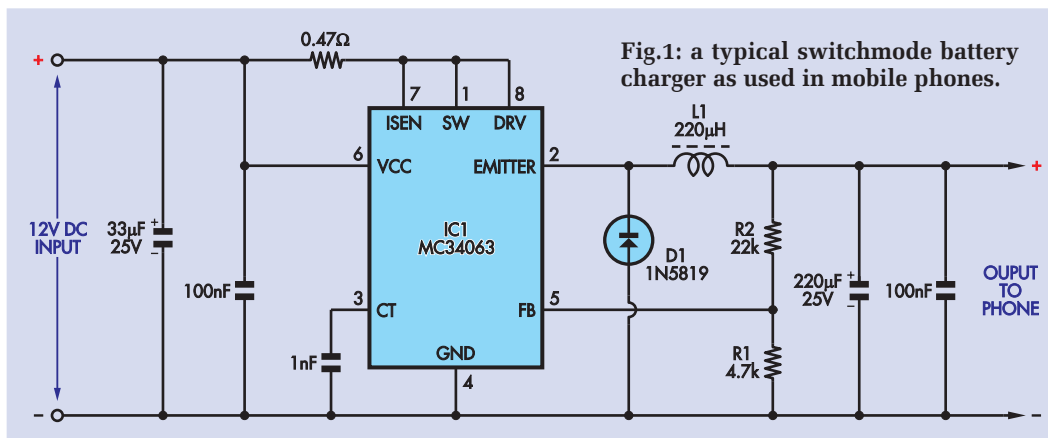

Fig.1: a typical switchmode battery charger as used in mobile phones.
A typical projector car headlight is shown in Fig.1. From the front, there's a cover plate of glass or plastic. Behind that is the convex glass lens (normally used only on low beam), followed by the bulb and then a simple reflector. The bulb is masked so that the upper part of the beam is abruptly cut off, to avoid blinding oncoming drivers.
**Fig.1:** this diagram shows a 'projector' type car headlight. The main optical element is a large convex glass lens mounted within the headlight assembly (1) and this replaces the reflector and flat glass lens used on other headlights. A shield (2) prevents on-coming driver glare, while (3) is the rudimentary headlight reflector and (4) is the bulb. [Bosch]
The circuit shown in Fig.1 is typical of most chargers, with some